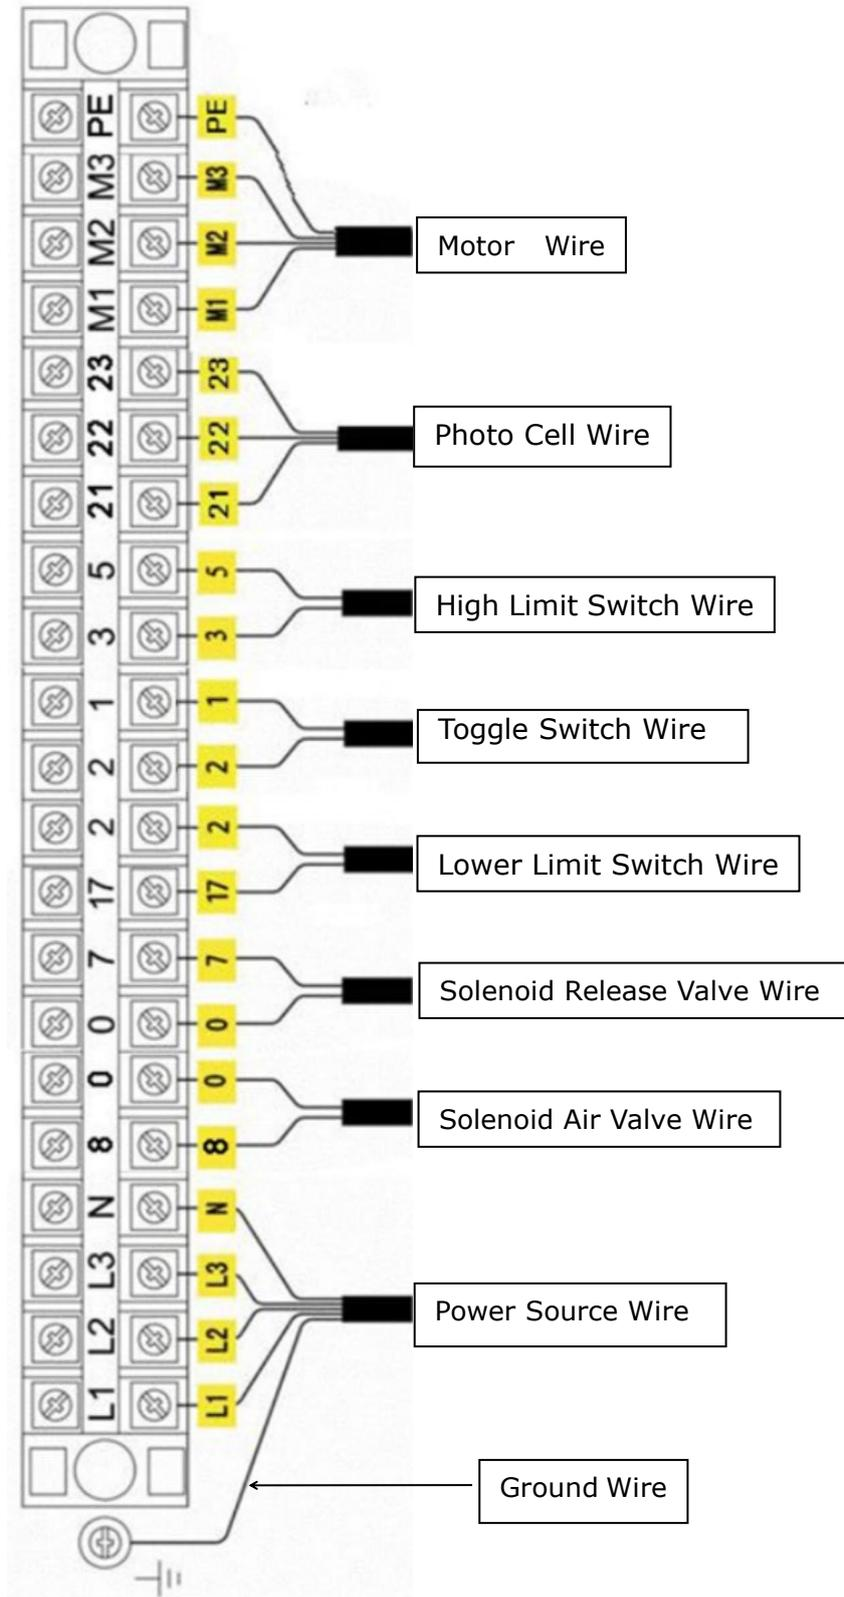

Fig. 11
1.1 Connect the power wire and limit switch wire according to the Wiring diagram (See Fig. 11).